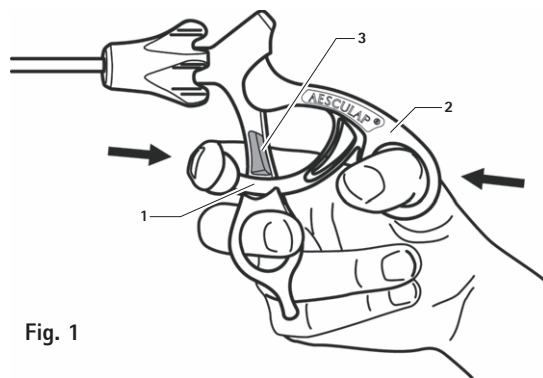

Fig. 1
- To release the ratchet mechanism, press actuating lever 1 and handle part 2 towards each other, see Fig. 1.